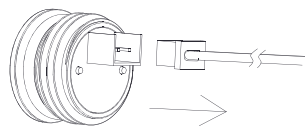

Fig:2
2. Disconnection of male and female connectors will help to turn off the photocell. (Fig:2)